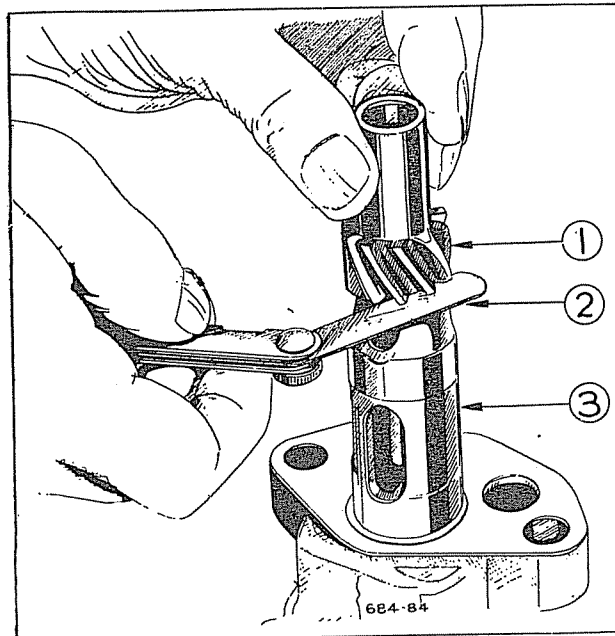

Fig. 40—Measuring End Play.
- (1) When assembling a new rotor on the drive shaft, press the rotor on to the shaft until the end of the shaft is flush with the face of the rotor. When pressing rotor on shaft make sure it is square with the shaft. Drill a $\frac{5}{16}$ inch hole and instal pin, making certain the pin does not protrude at other end above the surface of the rotor.
- (2) Slide shaft and rotor into pump body.
- (3) Press the drive gear on to the shaft until end play is from .005 to .010 inch (Figure 40). If the pin holes do not line up, drill a new $\frac{5}{16}$ inch hole at right angles to the other hole, instal pin and peen over both ends.